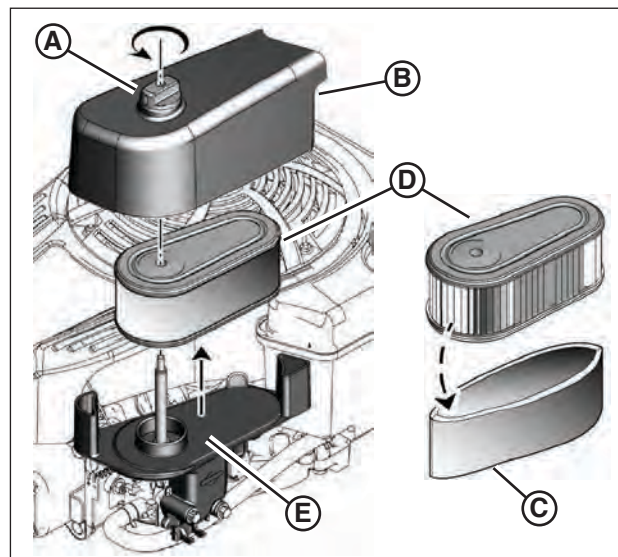

Figure 15: Air filter and pre-cleaner
1. Remove the fastener (**A**, **Figure 15**) and the air filter cover (**B**).